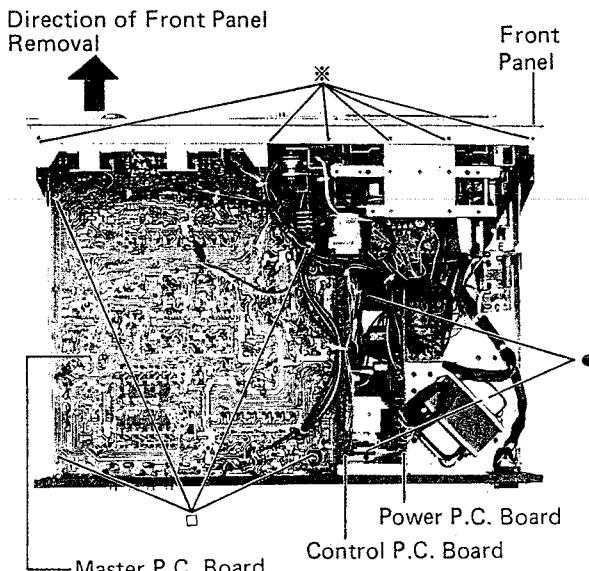

Figure 5
- (3) Remove ten screws marked "※" from the top and bottom sides of the front panel as shown in Figures 5 and 6.
- (4) Carefully disconnect lead wires from keyboard indicator and memory indicator P.C. Boards, and pull out the front panel in the direction of the arrow as shown in Figure 5.
- (1) Remove two screws marked "●" as shown in Figure 5.
- (1) Remove four screws marked "□" as shown in Figure 5.